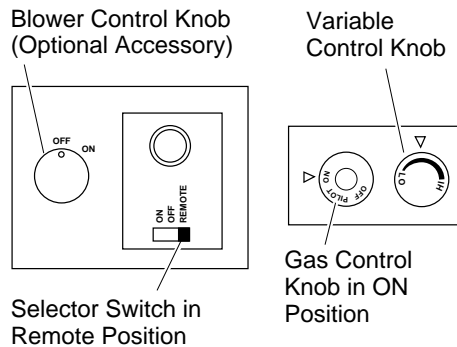

Figure 54 - Setting the Selector Switch, Gas Control Knob, and Variable Control Knob for Remote Operation
- After lighting, let pilot flame burn for about one minute. Turn gas control knob to ON position. Adjust variable control knob anywhere between HI and LO. Slide the selector switch to the REMOTE position (see Figure 54). **Note:** The burners may light if hand-held remote ON button was on when selector switch was last turned off. You can now turn the burners on and off with the hand-held remote control unit. **IMPORTANT:** Do not leave the selector switch in the REMOTE position when the pilot is not lit. This will drain the battery. **IMPORTANT:** Be sure to press the ON/OFF buttons on the hand-held remote control unit for up to 3 seconds to assure proper operation.